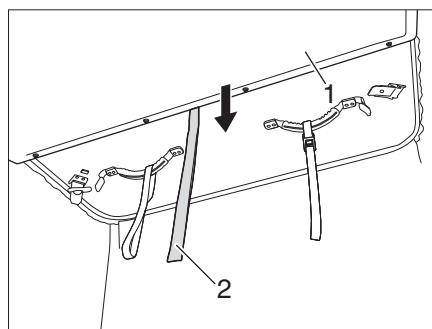

Fig. 46 Pulling the sleeping area downwards
- Pull the sleeping area (Fig. 46,1) downwards with the belt (Fig. 46,2).
- ▷ Before closing the pop-up roof pull the sleeping area (Fig. 46,1) down. **Do not** pull the sleeping area and the pop-up roof down at the same time.